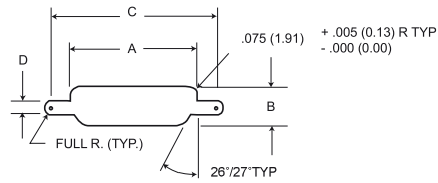

Figure 2
1. Front mounting (figure 1) and rear mounting (figure 2) accommodates #2-56 screws.